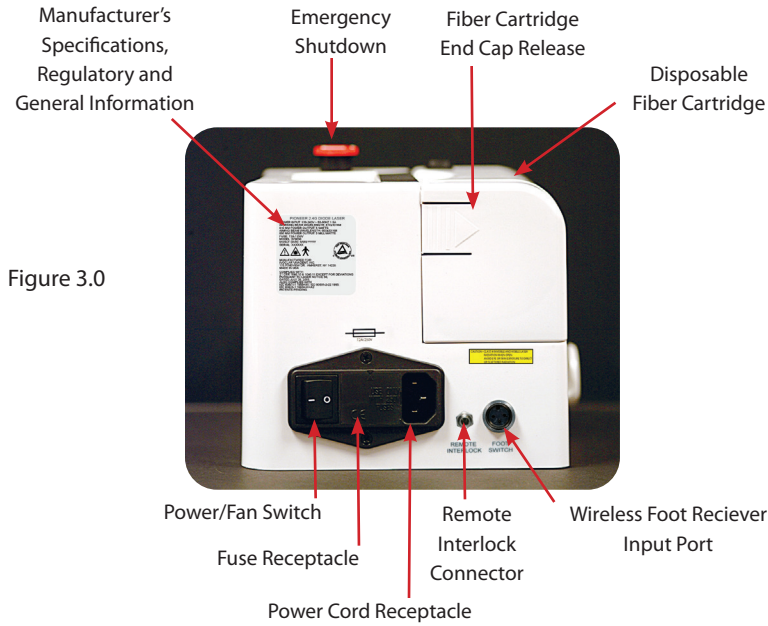

Figure 3.0
3.1.1 Power Cord Installation (see Figure 3.0 on page 10)
3.1.2 Power/Fan Switch (see Figure 3.0 on page 10)
3.1.4 Wireless Receiver Installation (Figure 3.0, Figure 3.3 and Figure 3.4 on page 11)